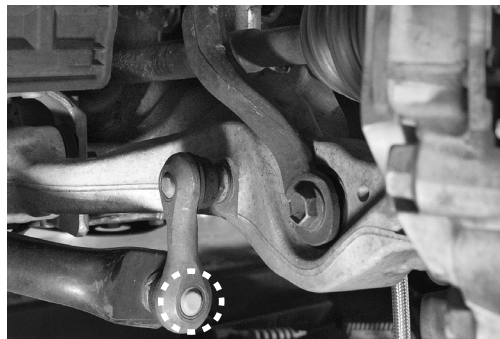

Fig. 2
1. Disconnect the end link from the sway bar (Fig. 2).